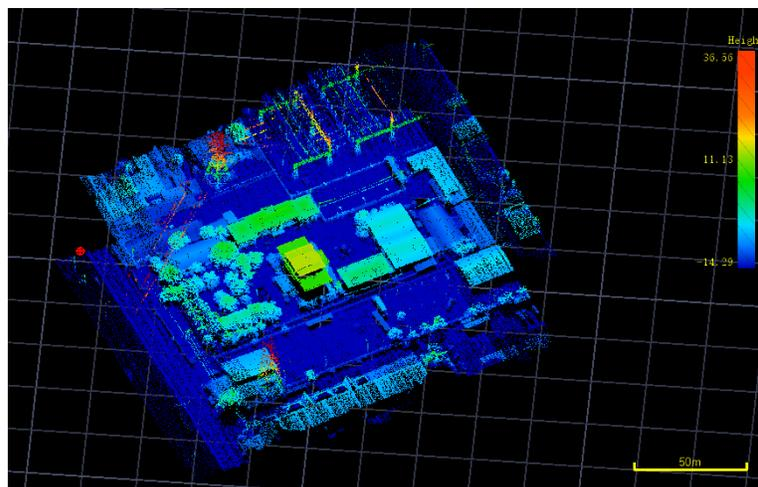
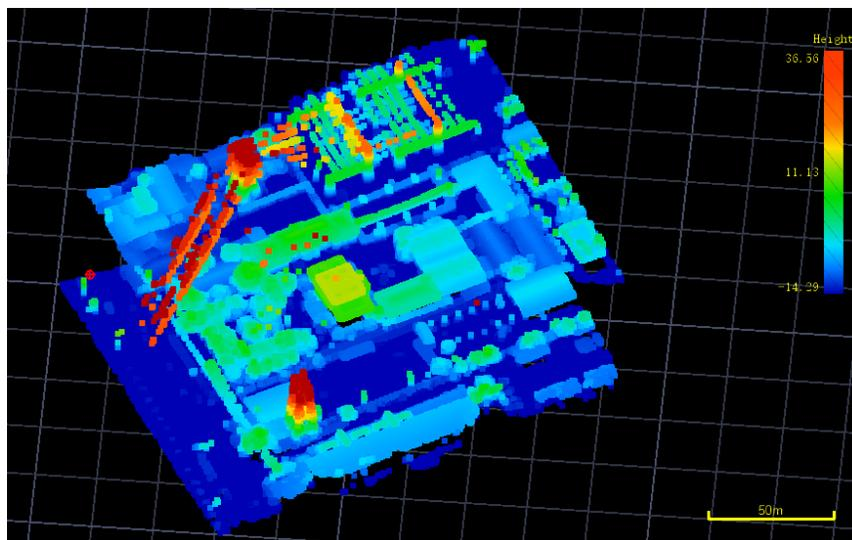

Figure 3-29 Point size set to minimum
Figure 3-30 Point size set to maximum
- The slider corresponds to the point cloud from left to right from small to large, such as shown in Figure 3-29 for the point cloud is the smallest, such as shown in Figure 3-30 for the point cloud is the largest.